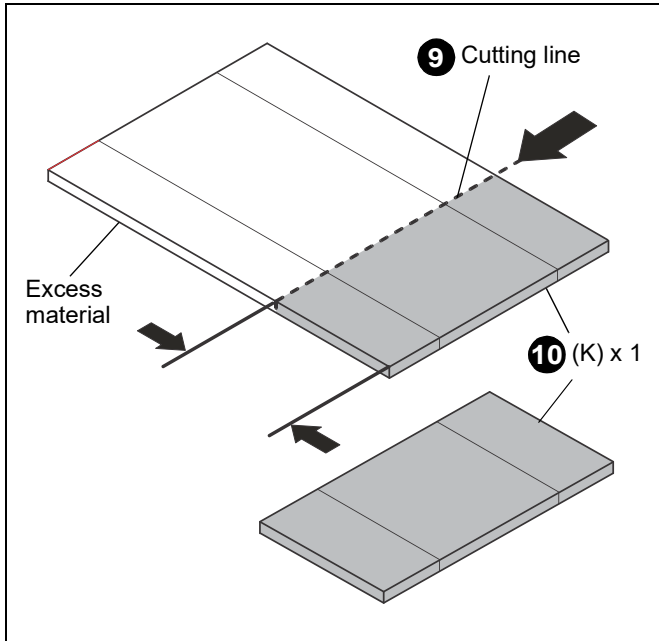

Figure 21
6. Hang the assembled shelf bracket (M) onto the M8 x 12mm screws (N) in the upright extrusion (A). (See Figure)
9. Mark the height of the space between the camera and storage box (H) on the small cover (K).
10. Cut the small cover (K) to the required size. (See Figure 21)